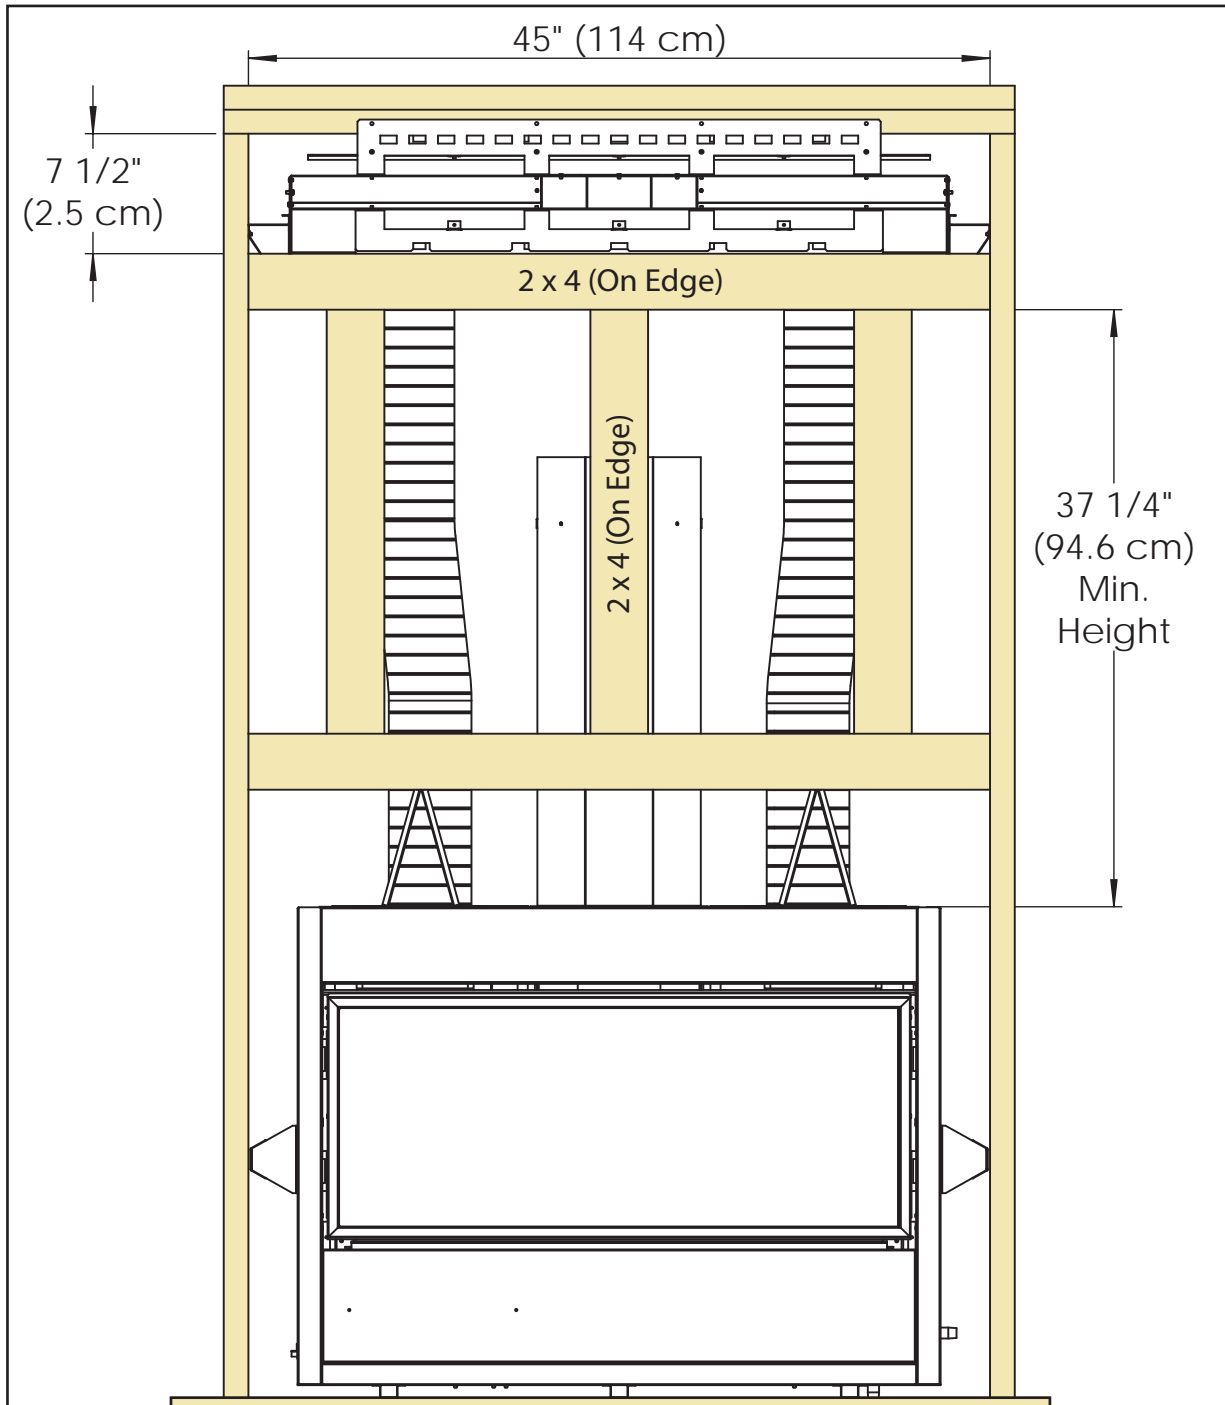

Figure 5. C34 - CSS Framing & Rough Opening
Refer to Figures 5 & 6 for the minimum allowable framing and rough opening of the CSS.
Step 1: Frame in the rough opening for the CSS as shown in Figures 5 & 6 (Pages 4,5) in the desired location following all required clearances as stated in the FRAMING & CLEARANCES section.